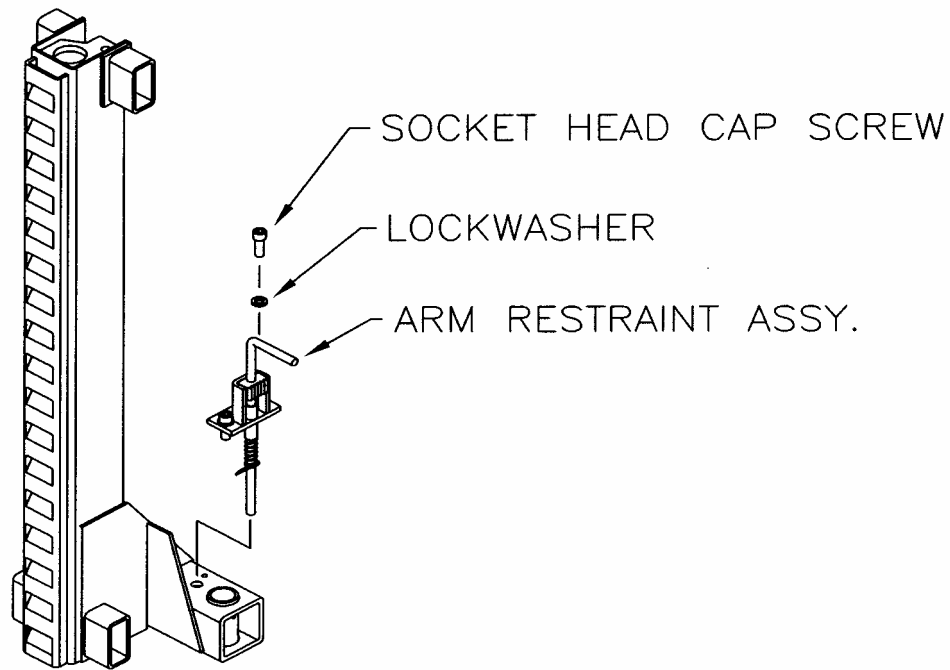

Figure 8 – Arm Restraint Installation
6. Using two (2) 3/8"-16UNC x 1" LG. socket head cap screws, and two (2) 3/8" ID lock washers, install the arm restraint assemblies as shown in **Figure 8**. Before tightening completely, make sure that the arm restraint has full contact with the arm restraint gear by pushing it firmly against the arm.